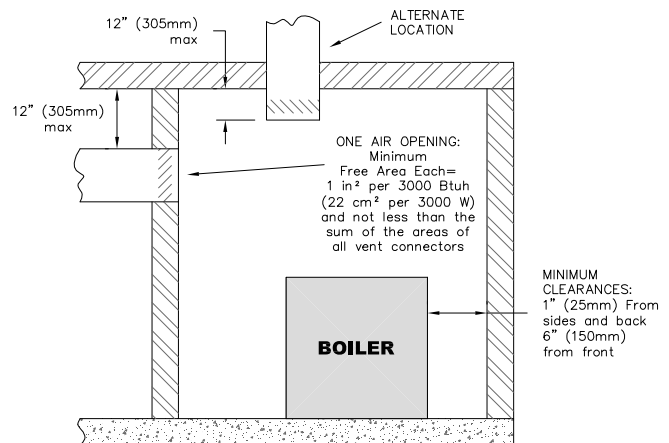

Figure 1.8: Air Openings – All Air from Outdoors through One Opening
b. **One Permanent Opening Method:** Provide one permanent opening beginning within 12 inches (305 mm) of the top of the space. The opening shall communicate directly with the outdoors, communicate through a vertical or horizontal duct, or communicate with a space that freely communicates with the outdoors. The opening shall have a minimum free area of 1 in² per 3000 Btu/hr of total rated input for all appliances in the space and not less than the sum of the cross-sectional areas of all vent connectors in the space. The gas-fired equipment shall have clearances of at least 1 inch (25 mm) from the sides and back and 6 inches (150 mm) from the front of the appliance. See Figure 1.8 for this arrangement.